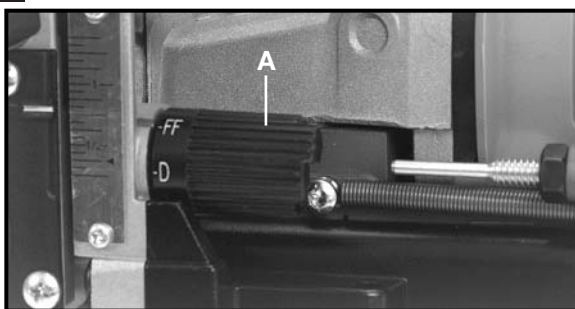

Fig. 12
9. Rotate the “quick set” depth adjusting turret (A) Fig. 12, to the “FF” position.